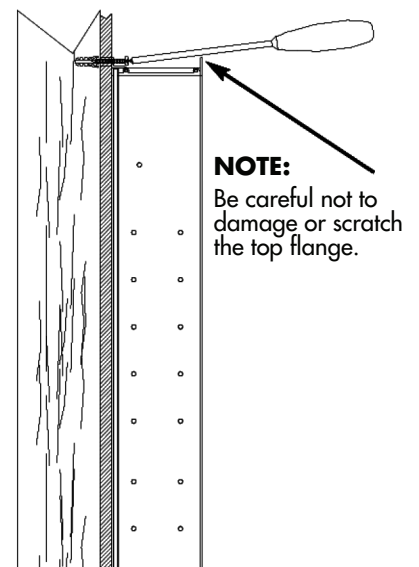

FIG 15
9. Remount cabinet and attach with #10 x 1½" wood screws (Fig 15). Be careful not to damage or scratch the top flange.